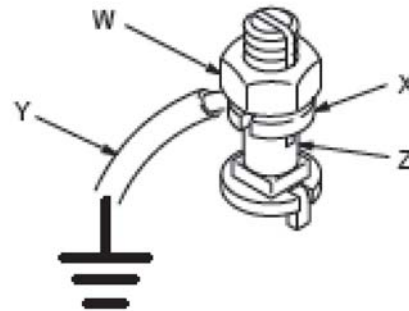

Fig. 2
*All other Pumps:* use a ground wire and clamp. See Fig. 2. Loosen the grounding lug locknut (W) and washer (X). Insert one end of a 1.5 mm2 (12 ga) minimum ground wire (Y) into the slot in lug (Z) and tighten the locknut securely. Connect the other end of the wire to a true earth ground.